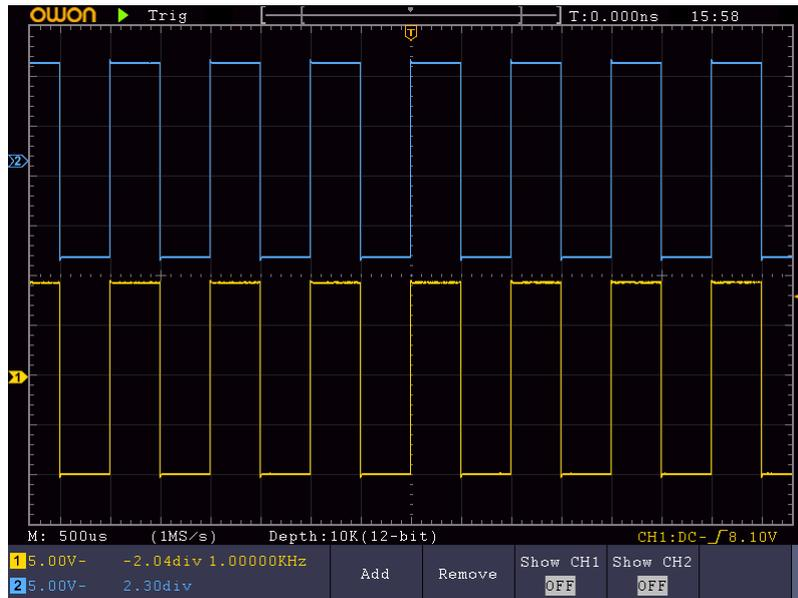

Figure 6-2 Waveform of Gain Measurement
- (1) Push the **Autoset** button and the oscilloscope will automatically adjust the waveforms of the two channels into the proper display state.
- (2) Push the **Measure** button to show the Measure menu.
- (3) Select **Add** in the bottom menu.
- (4) In the right menu, select **CH1** in the **Source** menu item.
- (5) In the left Type menu, turn the **M** knob to select **PK-PK**.
- (6) In the right menu, select **Add**. The peak-to-peak type of CH1 is added.
- (7) In the right menu, select **CH2** in the **Source** menu item.
- (8) In the left Type menu, turn the **M** knob to select **PK-PK**.
- (9) In the right menu, select **Add**. The peak-to-peak type of CH2 is added.
- (10) Read the peak-to-peak voltages of Channel 1 and Channel 2 from the bottom left of the screen (see *Figure 6-2*).
- (11) Calculate the amplifier gain with the following formulas.